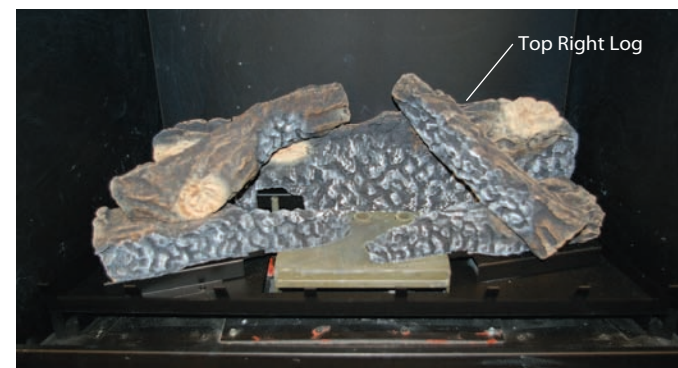

Figure 8e. Top right log placement.
Step 5. Place the top right log as shown in **figure 8e**. A notch is provided on the front right log, and a impression in the Rear bottom log.